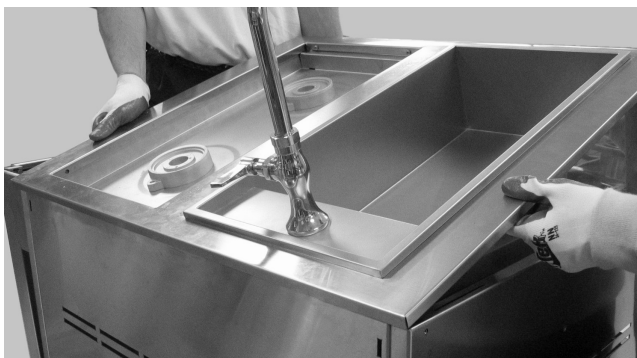
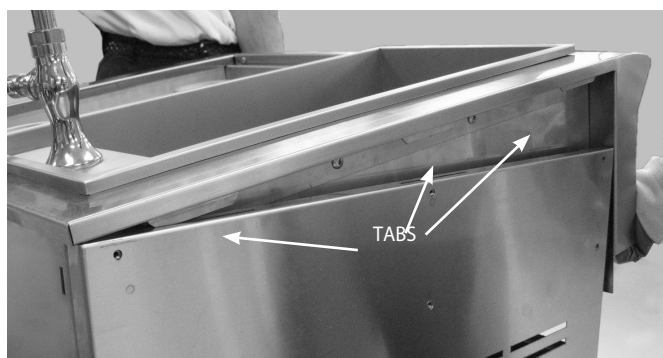

Fig. 10
Fig. 11
2. Two persons required to lift head (sink module shown). Placing head on cart, place rear of head over the rear of the cart first (Fig. 10). Then allow the rear side tabs to first locate in the slots on the top of the cart sides. The other tabs will locate in the middle and front slots as the head is lowered into position on the cart (Fig. 11).
3. Position tabs on side bracket to fit into slots on the cart (be aware of pinch points)(Fig. 11 -13). When complete, the leading ledge should sit flush on the top of the cart (no gap).